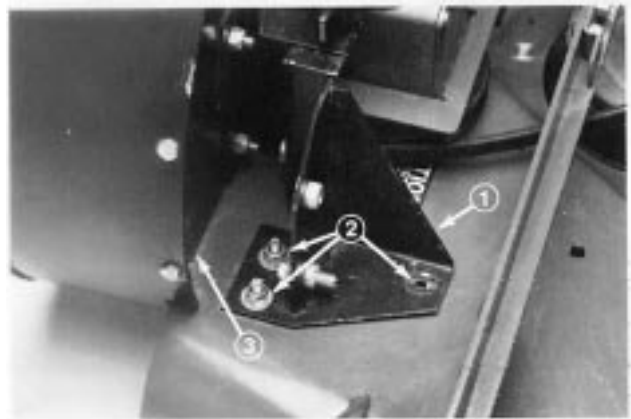

Figure 5
6. Position blower assembly onto cutting unit. Align front bracket with (3) mounting holes in deck and rear bracket with rear most deflector hole (Fig. 5 and 6.) Make sure blower is flush with deck opening.